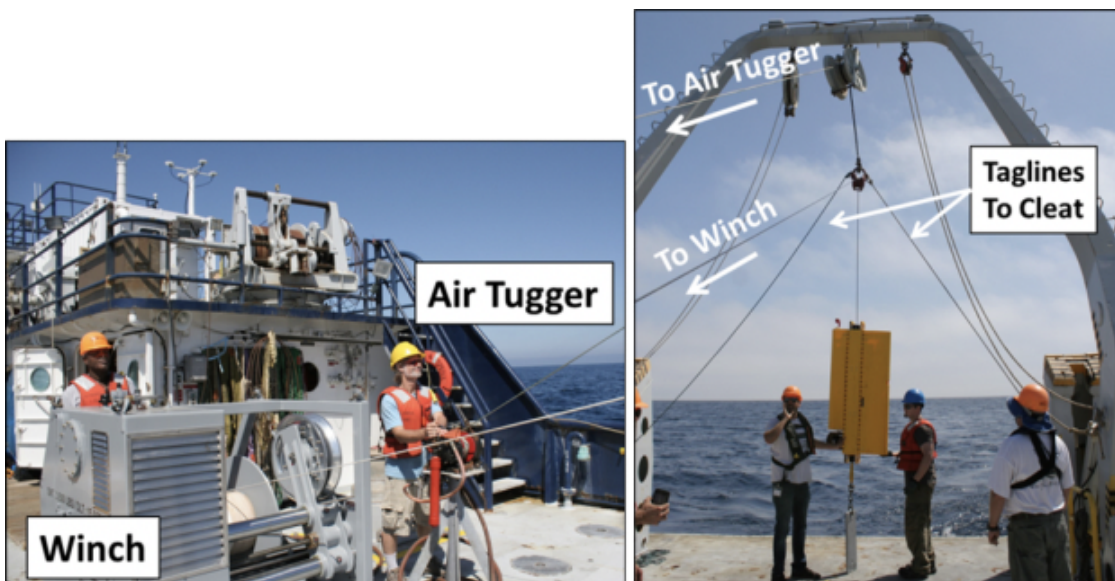

Figure 9: Positions and Equipment - (A) Winch and air tugger operators; (B) Deck lead, tagline operator/auxiliary person and safety observer.
- Run a line from the air tugger through the main block on the A-Frame and down (Figure 9) if using a floating block for the deployment.
- Block Tagline handler (2) also acting as Boat Hook Operator/Auxiliary person
- Run the rope line from the winch drum through the air tugger's block, set up during the deployment process (Figures 9 and 13A).